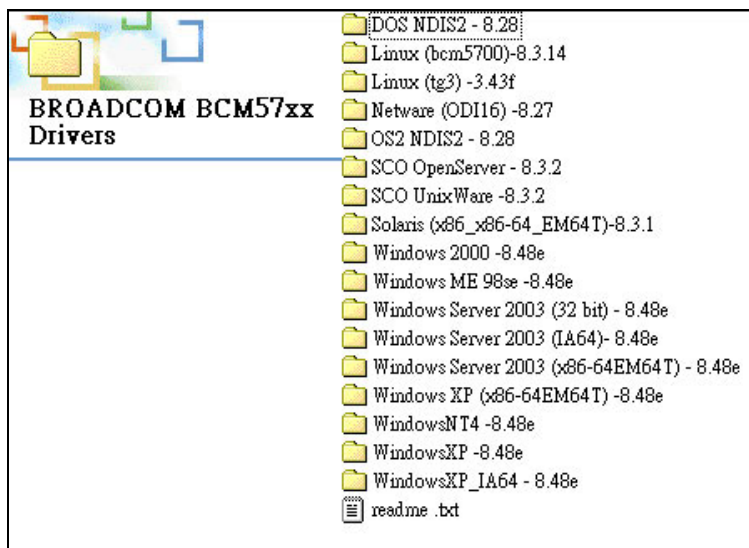

Figure 6-18: Location Browsing Window
Step 8: Select the proper OS folder under the “X:\3-LANBROADCOM BCM57xx Drivers” directory (Figure 6-18) in the location browsing window, where “X:” is the system CD drive.
- Step 8:** Select "**X:\4-AUDIO\AC-KIT883HD\WIN**" directory in the location browsing window, where "**X:**" is the system CD drive (**Figure 6-18**).